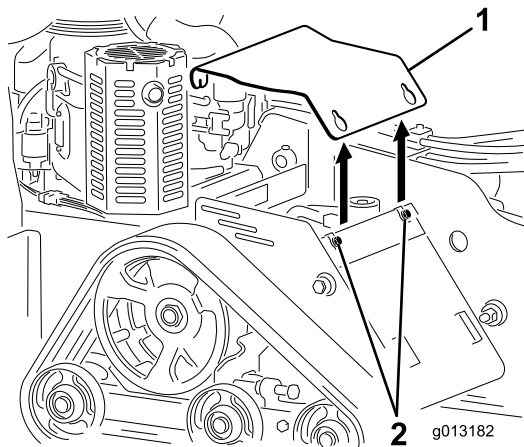

Figure 26
3. Loosen the three bolts securing the cover plate to the frame sequentially until the cover is free (Figure 26).
2. Slide the cover plate into place and secure it with the three bolts you loosened previously (Figure 26).